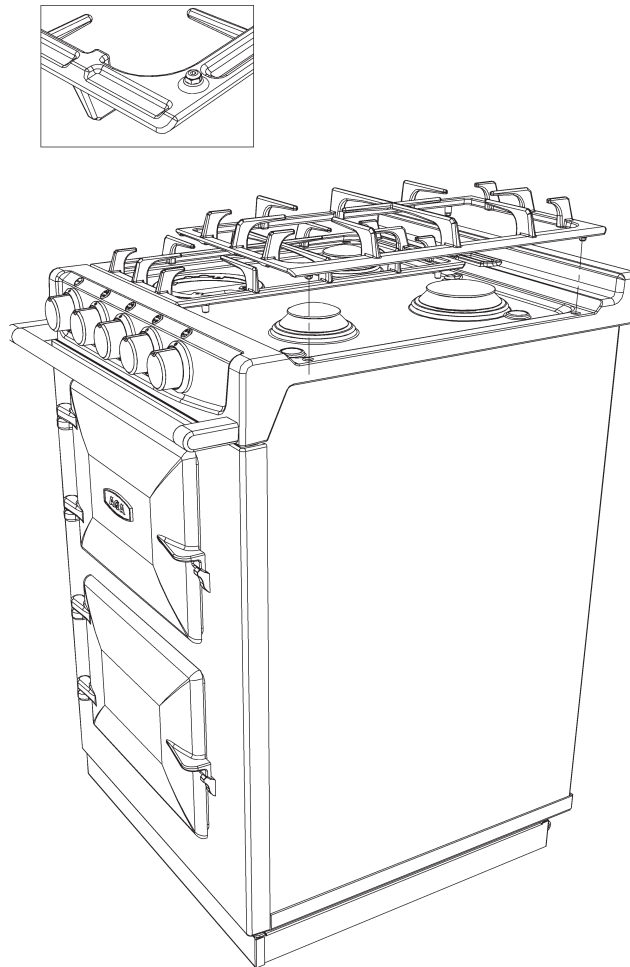

Fig. 16
1. Loosen retaining nut using $\frac{1}{4}$ " (8mm) spanner (See Fig. 16).